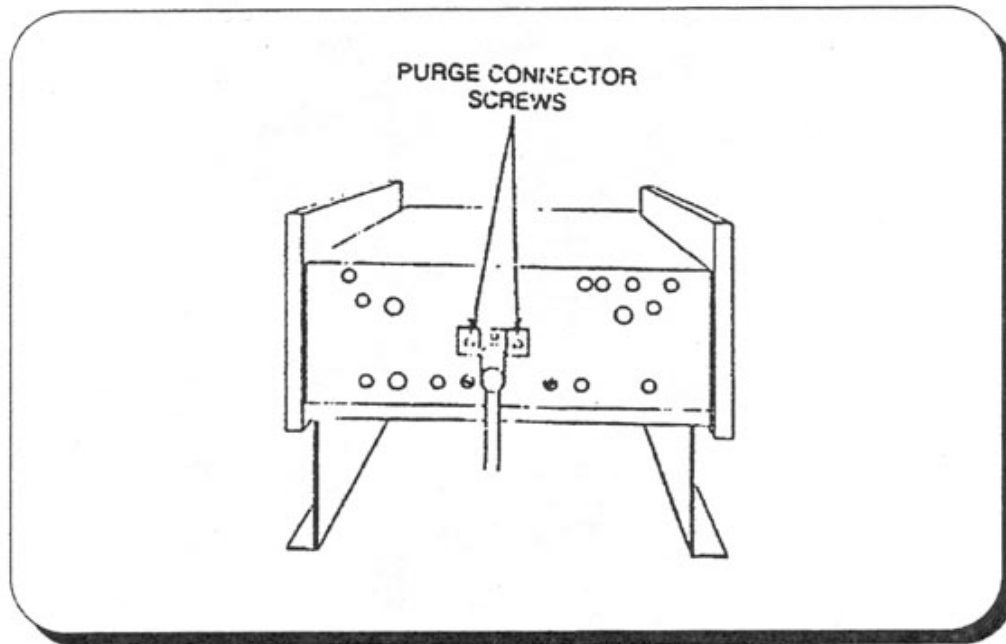

Figure 6-4. Gas Inlet Fitting Locations
5. Remove the two screws holding the gas inlet fitting to the isolation tube, and carefully pull out the gas inlet fitting (see **Figure 6.4**).